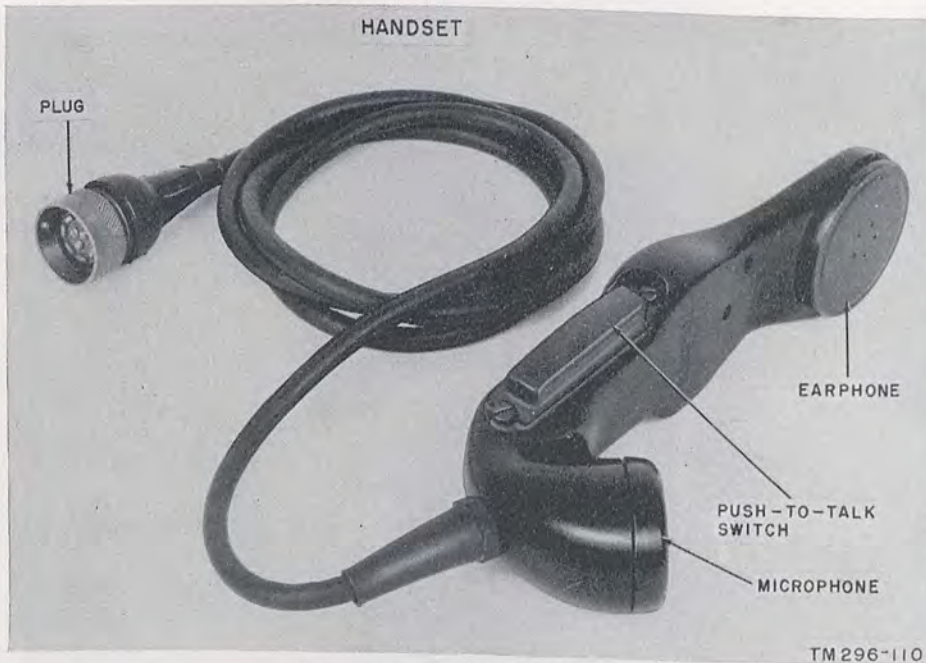

Figure 16. Handset H-33(*)/PT.
15. To Receive and To Send (Handset) (fig. 16)